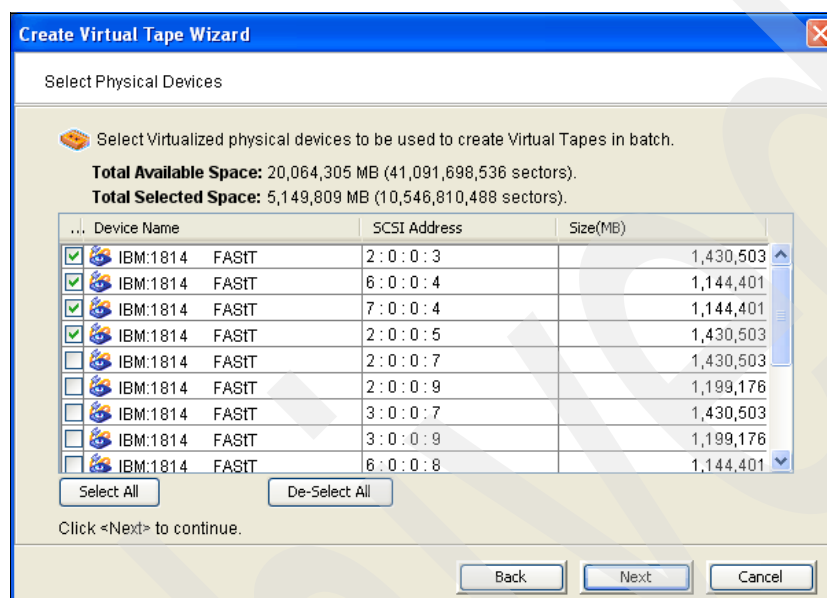

Figure 6-80 Virtual tape LUNs
- At the end of the virtual library creation wizard, you are asked if you want to create tapes for this library. If you click **Yes**, the virtual tape creation wizard begins and the first panel displays the LUNs on which the tapes are created (Figure 6-80). Click **Next**.